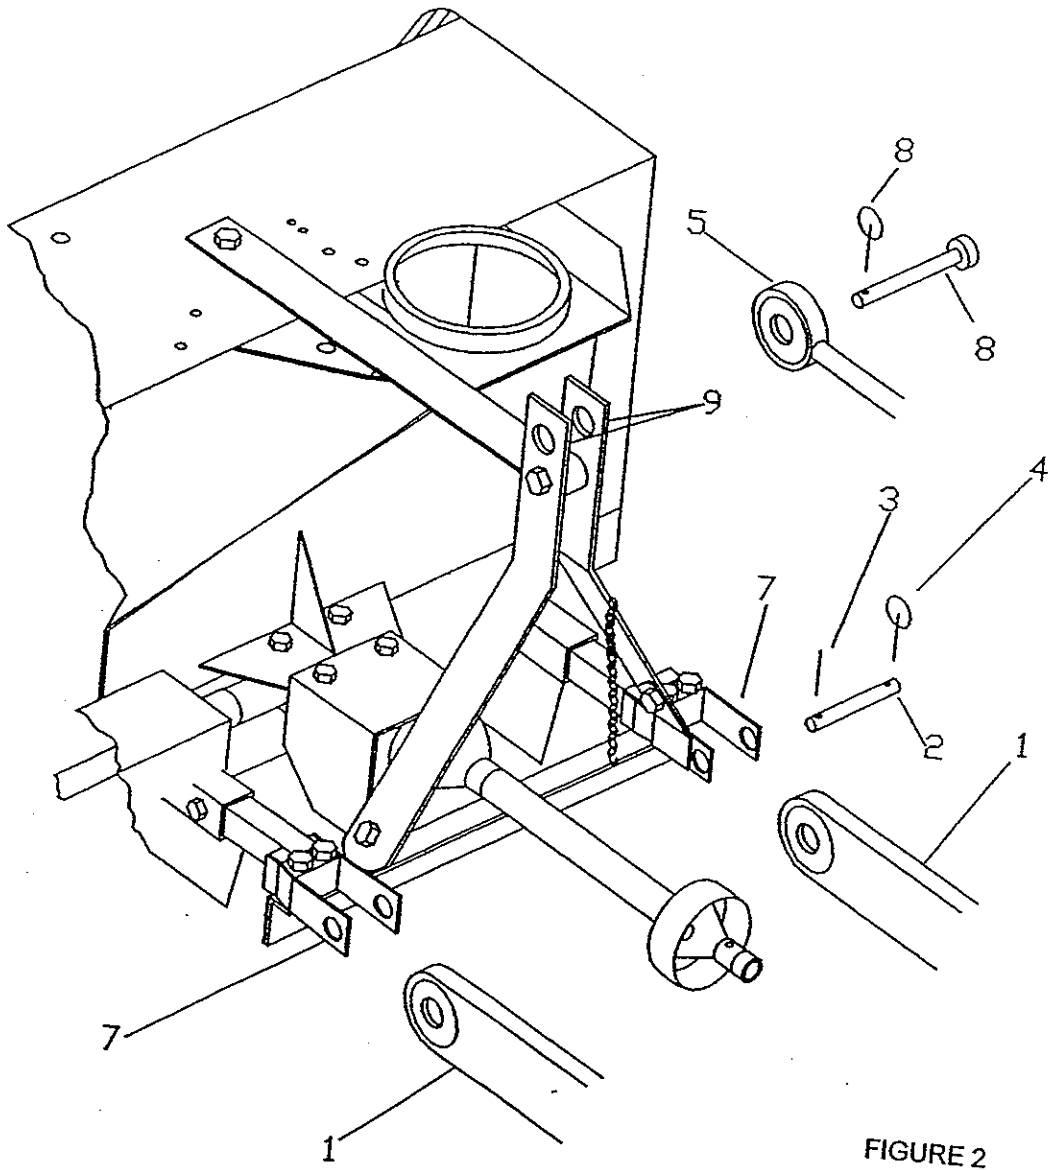

FIGURE 2
1. Attach tractor lower hitch arms (fig.2,item 1) to snowblower attaching arms (fig.2,item 7) using the hitch pins (fig.2,item 2) and secure with roll pins (fig.2,item 3) and linchpins (fig.2,item 4).
2. Install the tractor upper hitch (fig.2,item 5) in top hole of snowblower hitch arms (fig.2,item 9) using tractor pins (fig.2,item 6) and linchpin (fig.2,item 5).
3. To level snowblower front to back, adjust level using the tractor upper hitch (fig.2,item 5).